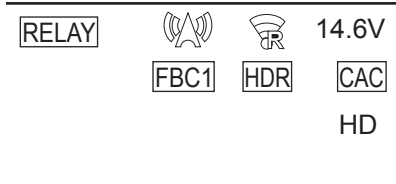

Fig. 1
**2 Set the power switch to < | > (ON) and confirm following items.**
- Level of the battery is sufficient in the status display in the control panel. (Fig. 1)